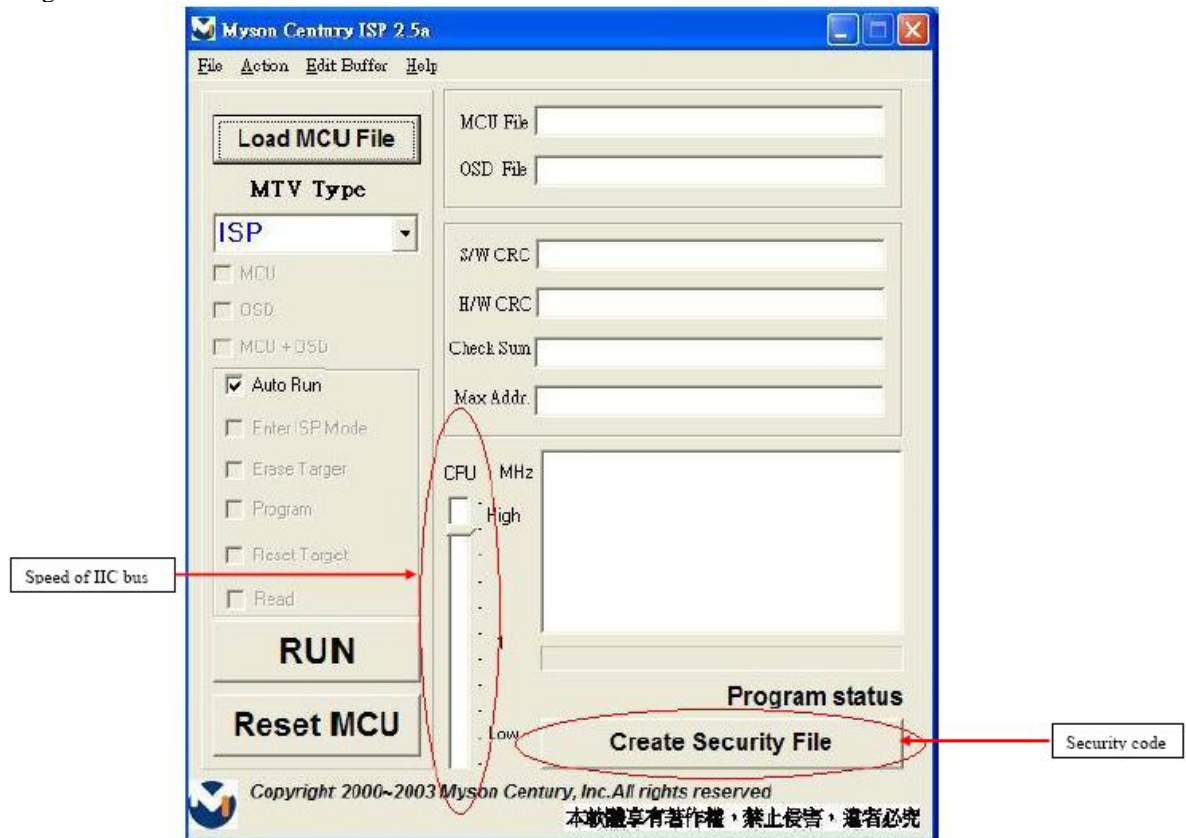

Fig. 2.4
2.4 Press “ Create Security File “ button to key in Security code . Adjusting bar to decrease speed of IIC bus , See Fig. 2.4 .